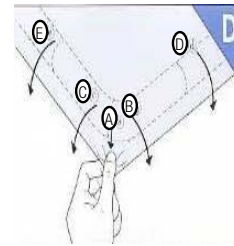

Figure 8. Apply the Product on the corner
3. Apply the Product at the corner first and then along the straight edges in this sequence: A, then B & C, then D & E, etc. See Figure 8.